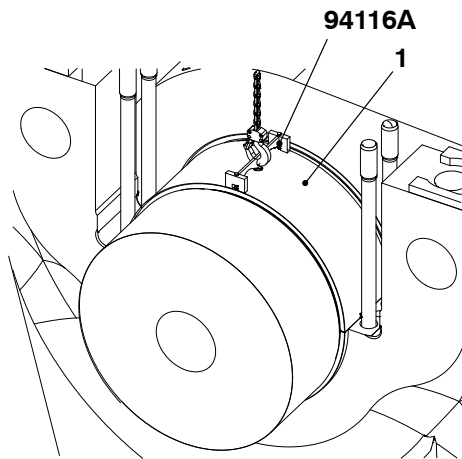

Fig. 20
- 12) Attach the lifting tool (94116A) to the bearing shell (1, Fig. 20).